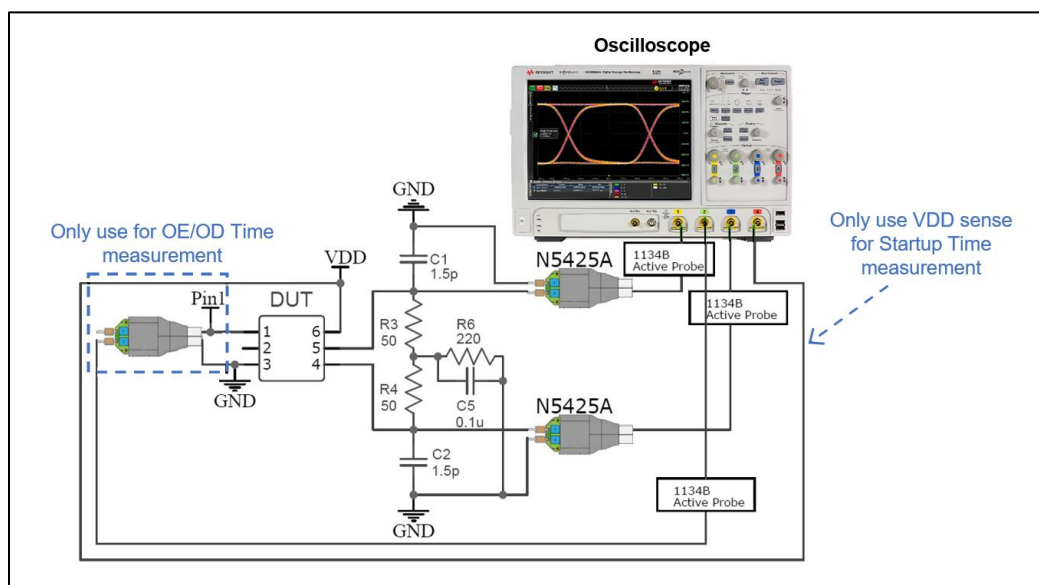

Figure 11. Test setup to measure FlexSwing Waveform Characteristics, Current Consumption^[20], Output Enable/Disable Time, and Startup Time
17. See Figure 11 for the test setup to measure LVPECL Current Consumption with Termination 1 or without Termination.